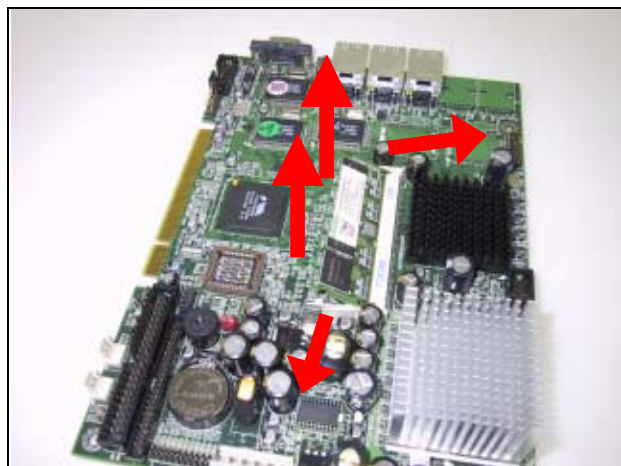

Fig. 2-8 Eject a SODIMM module
2. By pulling the arms, the SODIMM can eject itself (**Fig. 2-8**).